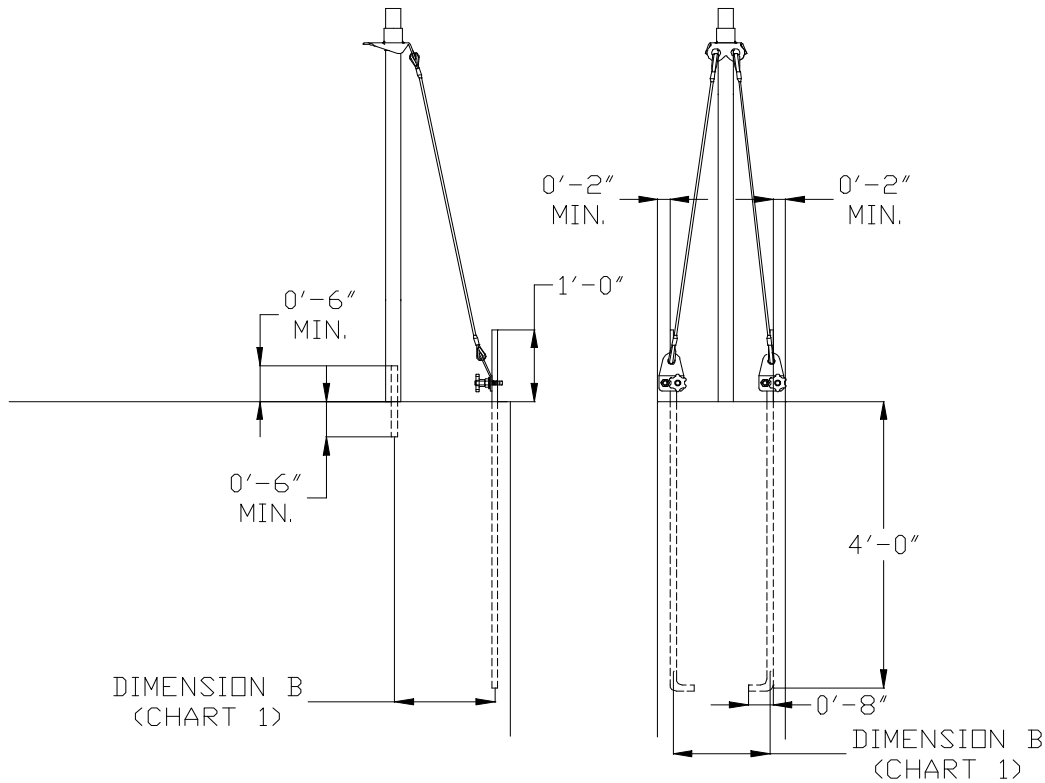

Figure 2
If there is no rebar present at the top of the concrete column or on the surface where the lifeline is desired, stub ends of rebar may be inserted into the concrete prior to cure. This system is to be used only with a Grade 40 or Grade 60 rebar of #6 through #11 sizes (3/4" – 1-1/2"). Rebar under #6 size WILL NOT be gripped adequately by the clamp. The clamps of the Rebar Stanchion tieback cables are NOT to be used with other grades of rebar. Two 60-in. pieces of rebar, Grade 40 or Grade 60, #6 through #11 (3/4" through 1-1/2") may be placed into the concrete according to the spacing shown on the previous page for the correct height of stanchion at each end of the lifeline for the tie-back cables. The rebar must be positioned such that 12-in. is exposed above the surface of the concrete, and at least 48-in. is fully encased in the concrete (as shown above). An 8-in. long (L) bend should be made in the section that is encased in the concrete. The section of rebar that positions the stanchion tube needs to be only 12-in. long with 6-in. encased in concrete (as shown in Fig. 2).